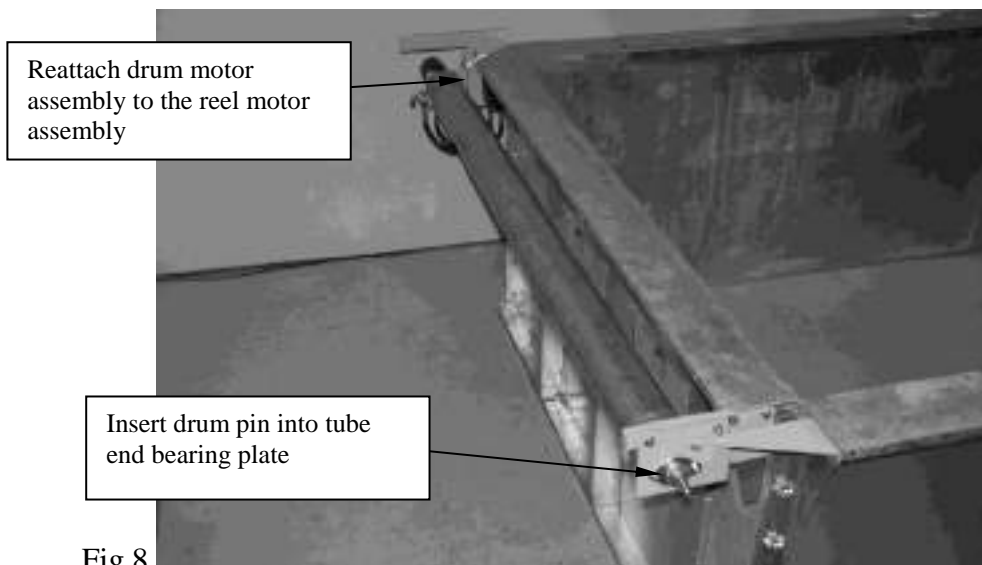

Fig 8
6. Lift the drum assembly into place and insert the drum pin into the tube end bearing plate. Loosely attach the two bolts that connect the drum motor assembly to the reel motor assembly. When the drive unit assembly is fully attached to the pool, tighten all the panel bolts so that both the tube end bearing plate and the motor assembly is level and flush with the top flange of the pool. Center the drum on the front panel and then tighten the drum mounting bolts. (Fig 8)